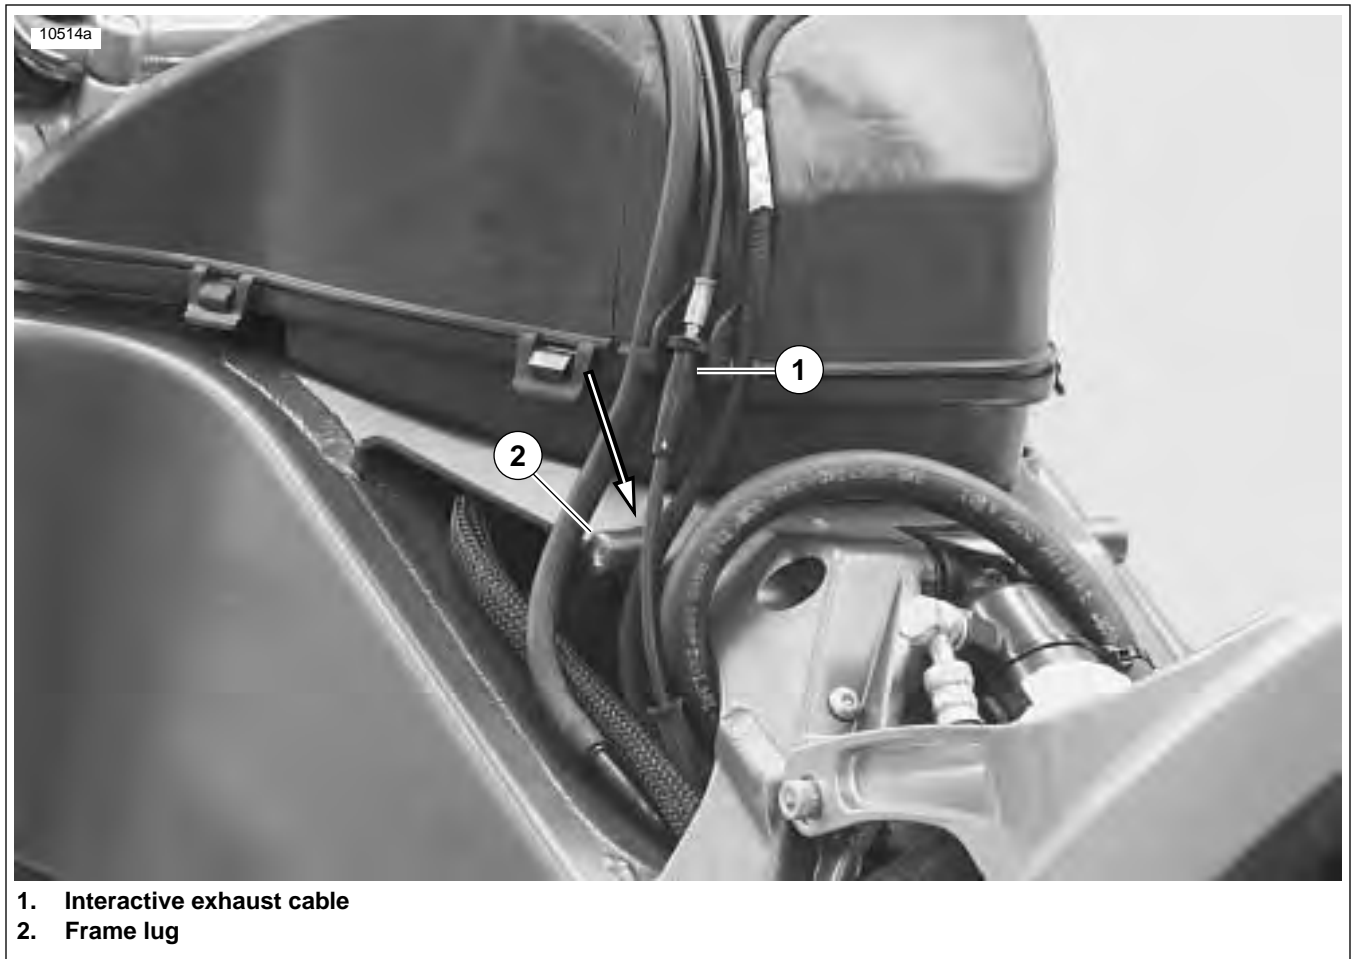

Figure 1-50. Correct Cable Routing Behind Frame Lug
11. See Figure 1-50. Verify that the interactive exhaust cable (1) is routed behind the frame lug (2) before installing air intake cover.